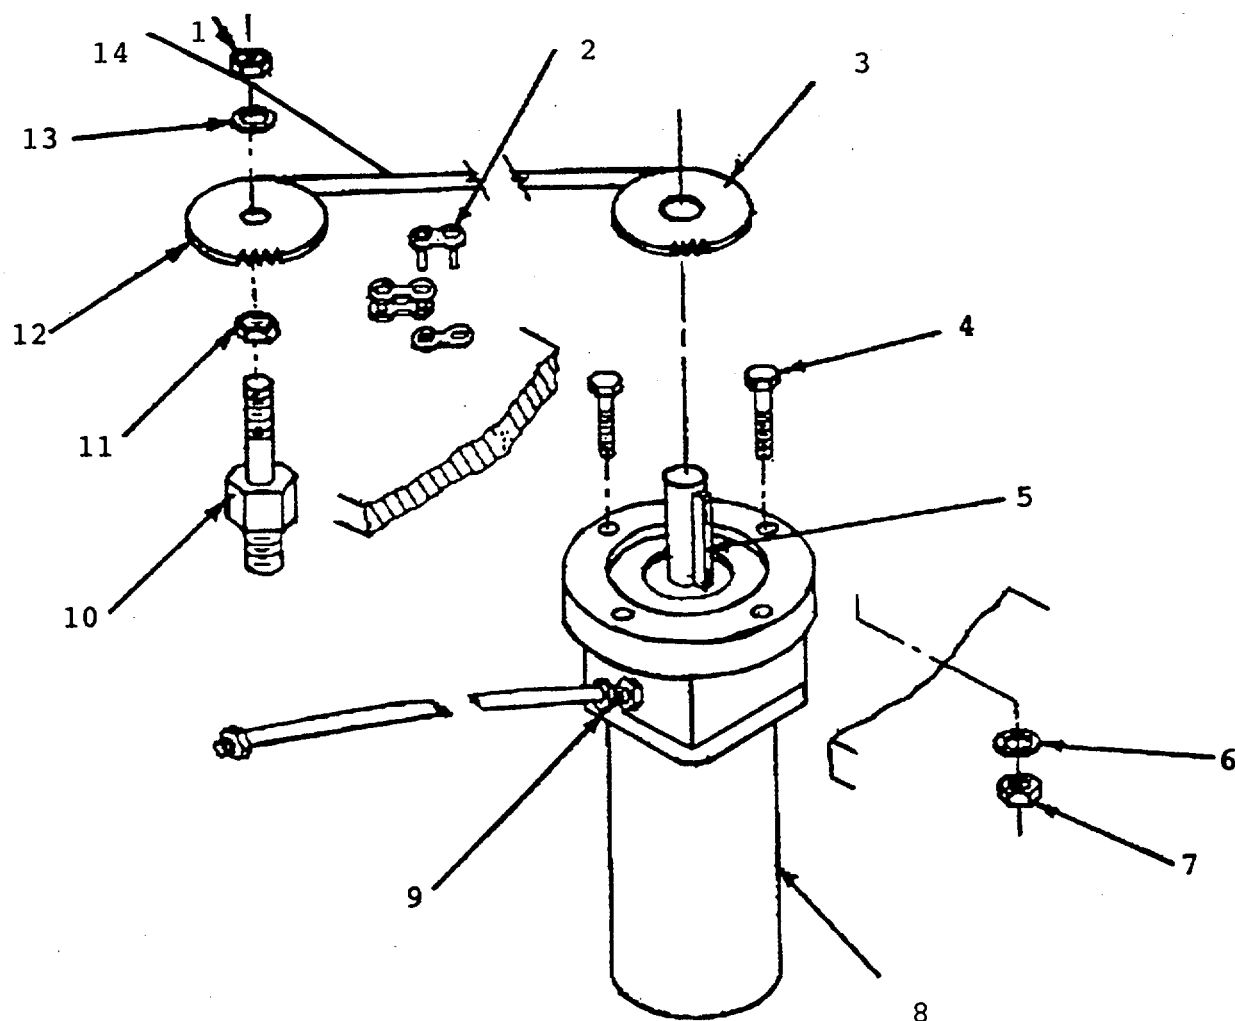

Figure 4-63. Direction Indicator Assembly
**INSPECT**      (Figure 4-63.)
1. Inspect for loose bolts (4).
2. Inspect for loose chain (14).
3. Inspect for loose electrical connections (9).